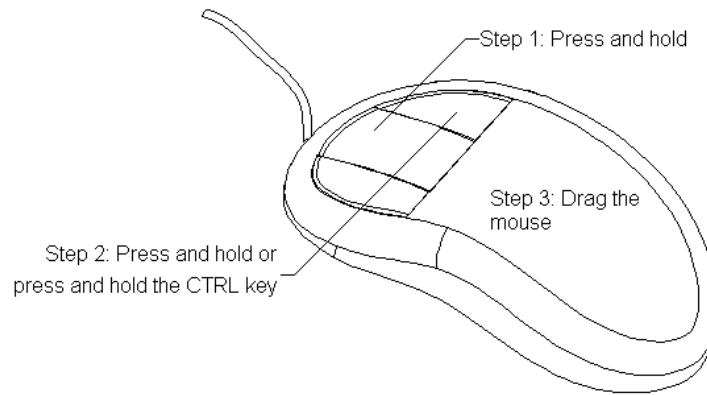

Figure 1-11 Using the three-button mouse to perform the rotate operation
5. Press and hold the middle mouse button. Then, press and hold the right mouse button to invoke the **Rotate** mode. Next, drag the mouse to dynamically rotate the view of the model in the geometry area and view it from different directions. You can also invoke the rotate view tool by pressing and holding the middle mouse button and then pressing and holding the CTRL key. Next, drag the cursor to rotate the view of the model. Figure 1-11 shows how to use the three-button mouse to perform the rotate operation.